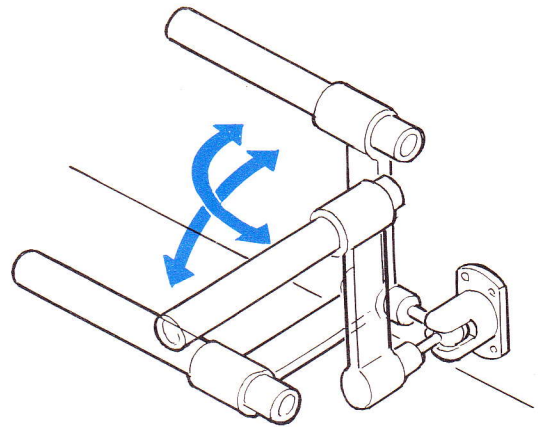

Fig. 8
- Refer to AM RECEPTION on page 9. With an AM station tuned in, position the ferrite antenna for optimum pickup. See Fig. 8.